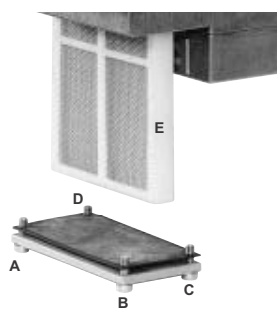

Fig. 39
- 2 Remove screws 1 ÷ 6 (Fig. 39).